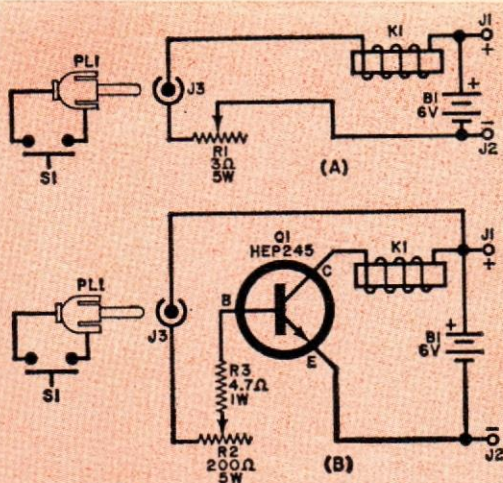

Fig. 1. Circuit in (A) is used for short runs where line voltage drop is minimal; (B) circuit provides current gain through Q1 for long runs.
**About the Circuit.** Both shutter release circuits are shown in Fig. 1. One is a simple series loop including a battery, *B1*, solenoid force control, *R1*, and solenoid, *K1*. Battery polarity in the circuit is important only when an external battery charger is used (through jacks *J1* and *J2*).